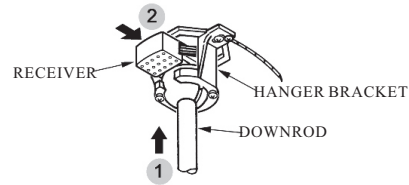

FIG. 10
2. Carefully lift the fan and seat the down rod ball assembly on the hanger bracket. Be sure the groove in the ball is lined up with tab on the hanger bracket. Do not pinch wires between the ball and down rod assembly and hanger bracket. (See fig.10)